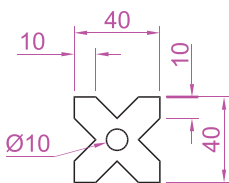

Fig. 5.15 First example – **Array** – drawing to be arrayed
1. Construct the drawing as shown in Fig. 5.15.